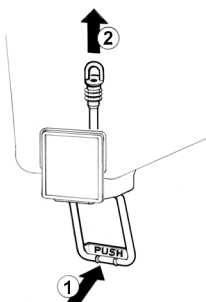

figure 2
5 Pinch tube faucet: push the dispensing handle (1) and take the pinch tube off from its seat (2) (see figure 2).